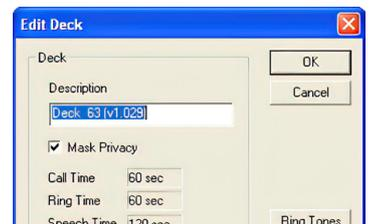

Fig 17
3. On the 'Edit Deck' dialog box, click 'Door Access' [Fig. 17]. This will bring up the 'Door Access' dialog box [Fig. 18 on next page].